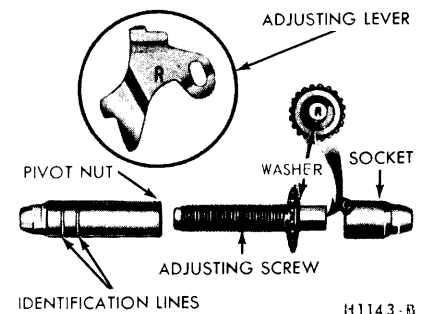

FIG. 18—Adjusting Screw and Lever Identification
Interchanging the brake shoe adjusting screw assemblies from one side of the car to the other would cause the brake shoes to retract rather than expand each time the automatic adjusting mechanism operated. To prevent installation on the wrong side of the car, the socket end of the adjusting screw is stamped with an R or L (Fig. 18). The adjusting pivot nuts can be distinguished by the number of grooves machined around the body of the nut. Two grooves indicate a right hand nut; one groove indicates a left hand nut.
11. Hook the cable hook into the hole in the adjusting lever. The adjusting levers are stamped with an R or L to indicate their installation on a right or left hand brake assembly (Fig. 18).